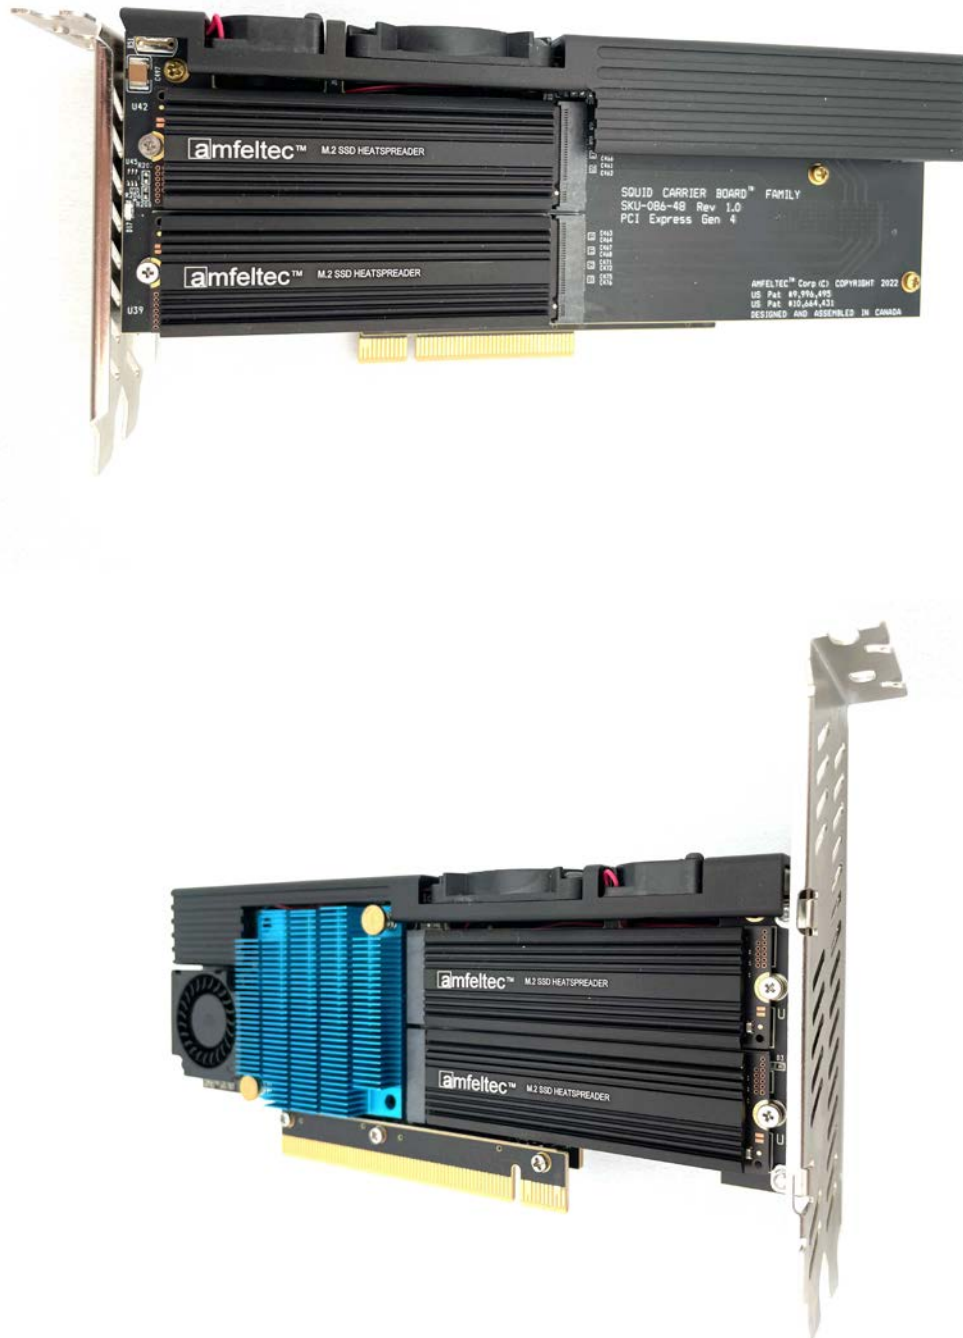

Figure 1: PCIe Gen 4.0 Carrier Board with eight (8) M.2 SSD modules (top and bottom sides)
1. PCIe Gen 4.0 Carrier Board for eight M.2 PCIe modules (Figure 1, 2) with x16 or x8 PCIe upstream Adapter and full-size or low-profile PCIe bracket.